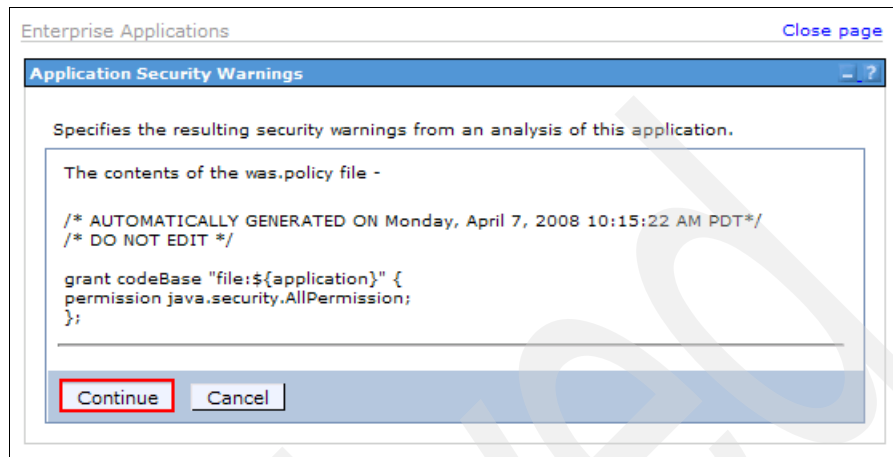

Figure 3-42 Application Security Warnings panel
5. In the Application Security Warnings panel (Figure 3-42), click **Continue**. This warning message is for informational purposes.